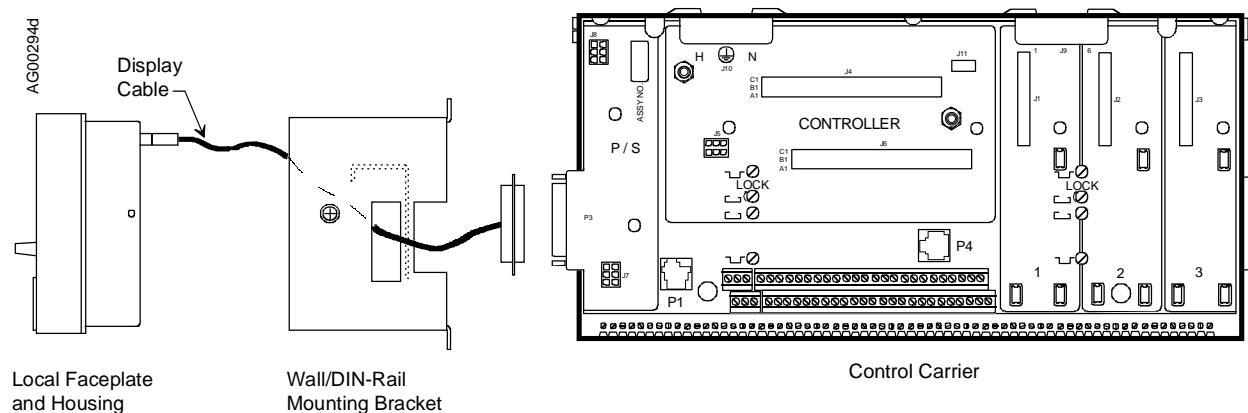

FIGURE 8-15 Local Faceplate Connection to Control Carrier
This section describes the installation of the Local Faceplate and its connection to the Control Carrier (see Figure 8-15 below). The faceplate can be mounted on a flat panel surface or fastened to a DIN rail.
The installation must be structurally rigid and allow sufficient access to the installed faceplate for reading the displays and manipulating the pushbuttons and pulser knob. Figure 8-15 shows the faceplate to control carrier connection. The Wall/DIN-Rail Bracket is mounted first and the cable connected to the control carrier. Next, the cable is routed through the Bracket and connected to the faceplate. The faceplate is then fastened to the Bracket.
3. Refer to Figure 8-15 and connect the remote display cable to the Control Carrier connector.